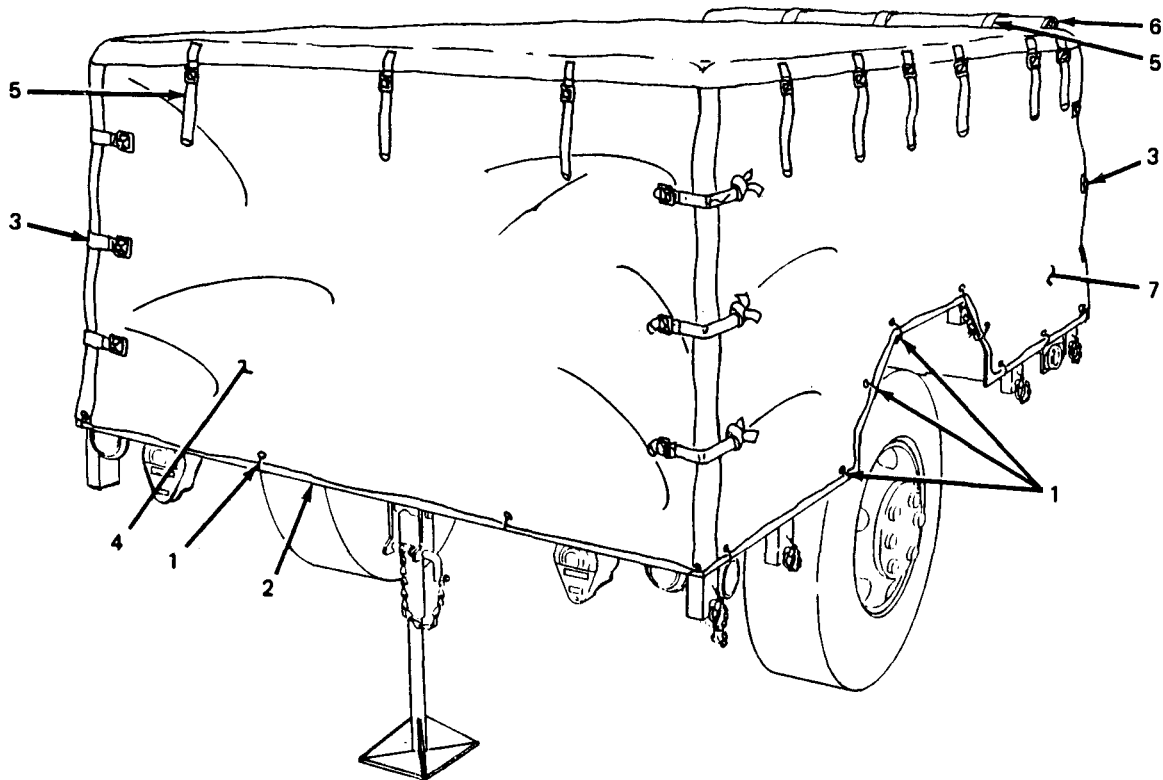
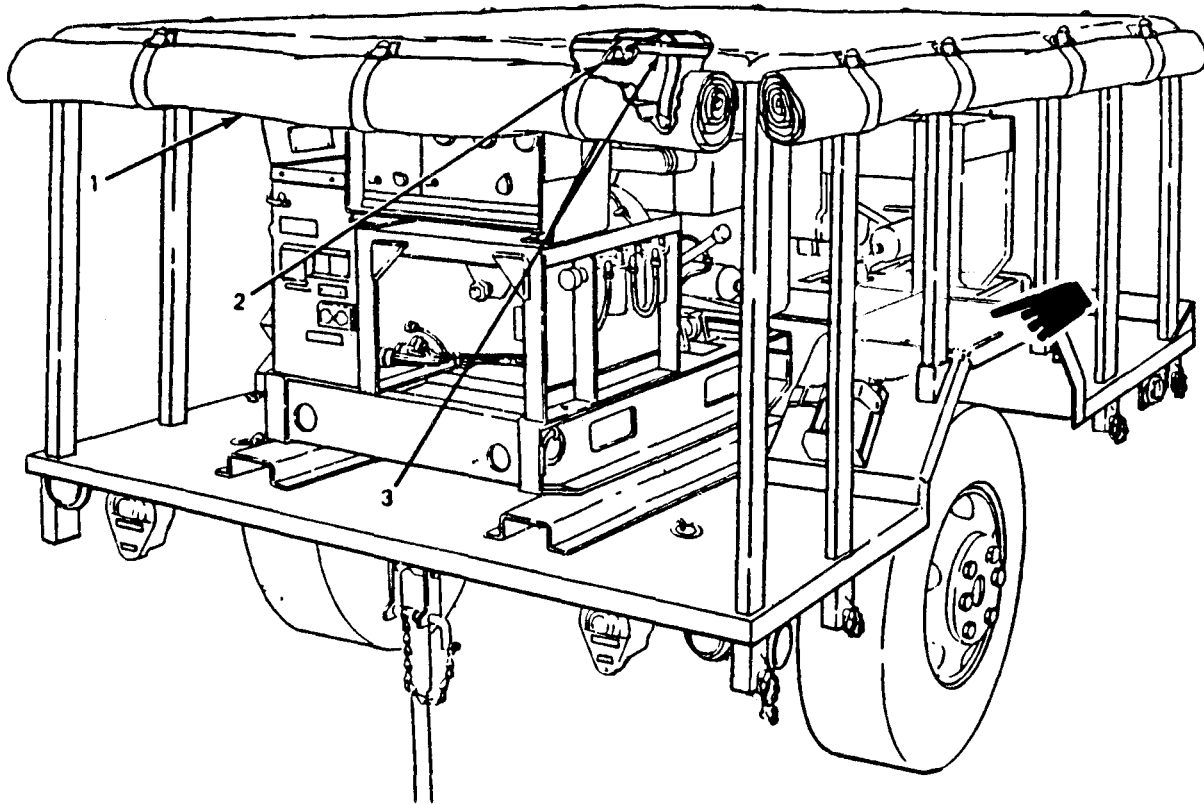

Figure 3-1. Fitted Cover Installed on Power Plant.
Figure 3-2. Fitted Cover Rolled Up for Removal.
a. Fitted Cover Replacement. (See figures 3-1 and 3-2.)
- (a) Untie 25 ropes (1, figure 3-1) fastening fitted cover to trailer body (2).
- (b) Unfasten six straps and buckles (3) securing rear curtain (4). Roll up curtain, and secure with three rollup straps (5) provided.
- (c) Unfasten six straps and buckles (3) securing front curtain (6). Roll up curtain, and secure with three rollup straps (5) provided.
- (d) Roll up each side (7) of fitted cover, in turn, and secure each side with six rollup straps (5) provided.
- (e) Working under fitted cover (1, figure 3-2), unfasten 12 straps (2) securing fitted cover to bow assemblies (3). Remove fitted cover.
- (a) Position fitted cover (1, figure 3-2) on top of bows (3) making certain front of fitted cover is at front of trailer.
(b) Secure fitted cover (1, figure 3-2) to bow assembly (3) with 12 straps (2) provided.
(c) Unfasten rollup straps (5, figure 3-1) securing sides of fitted cover and lower both sides (7).